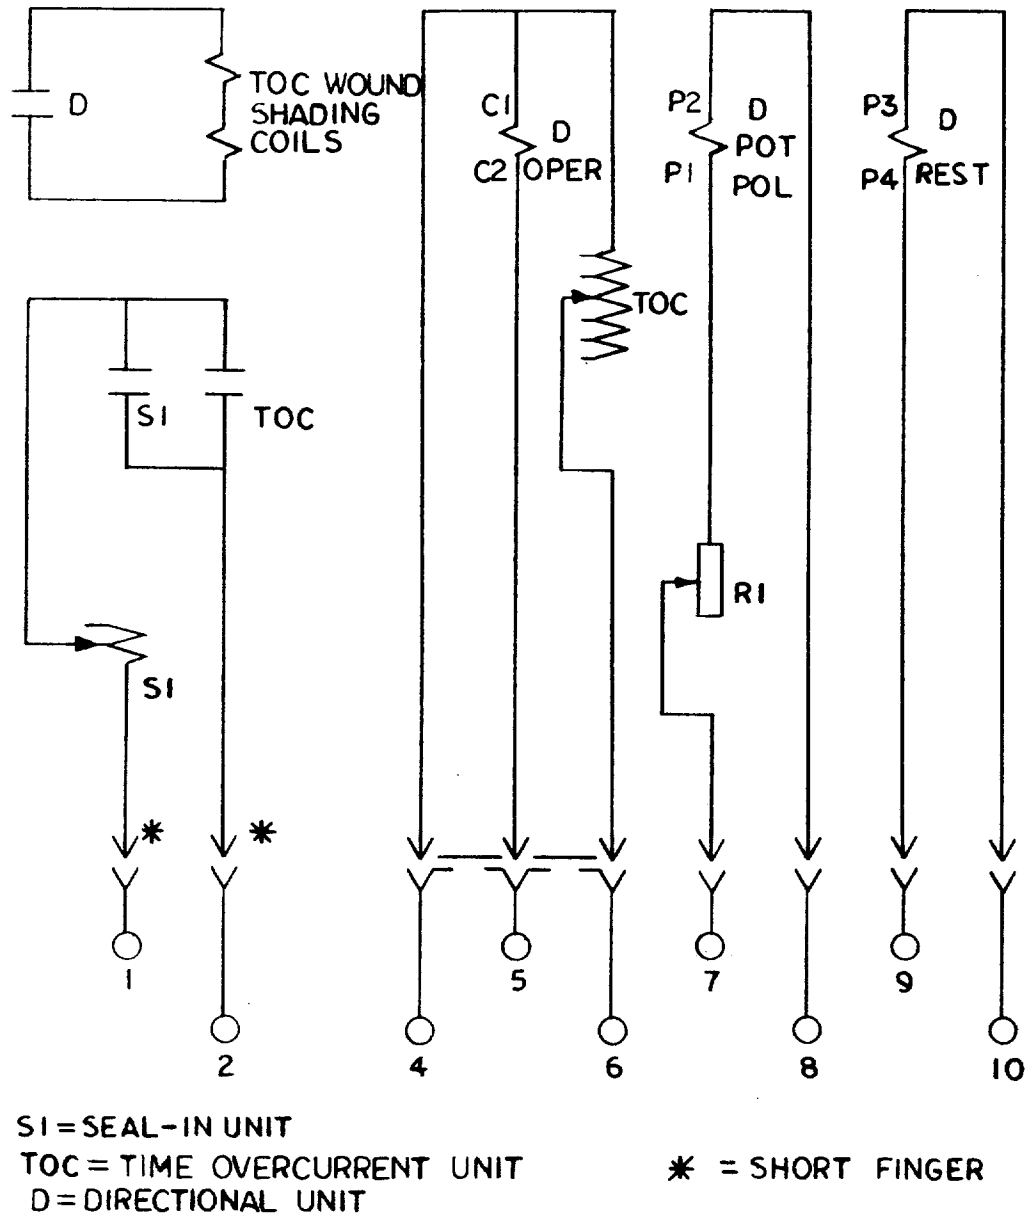

Figure 5 (0257A6165) Internal Connections for IBCV51M and IBCV53M Relays (Front View)
- Figure 5 (0257A6165) Internal Connections for IBCV51M and IBCV53M Relays (Front View)